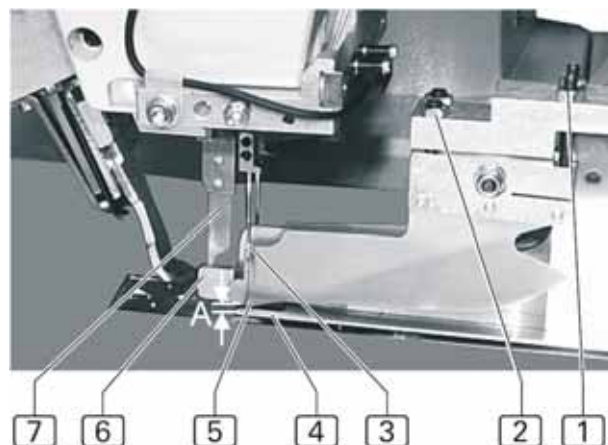

fig. 29
**fig. 29:** The centre knife [7] should be able to move in the centre between both protection plates of the centre knife guard [6]. The protection plates can be adjusted on both sides with the aid of pliers.
**fig. 29:** The distance of the guide plate [5] to needle [3] should be as small as possible. However, the guide plate must not touch the needle or the needle head, as this could cause a high noise development and thread breakage. The guide plate can be adjusted with the aid of pliers.
**fig. 29:** There should be a maximum distance A of 0.5 mm between the top side of the folder base and the lower edge of the guide plate [5]. During the sewing operation the guide plates must retain the folded material. When sewing particularly thick material, they must be adjusted.